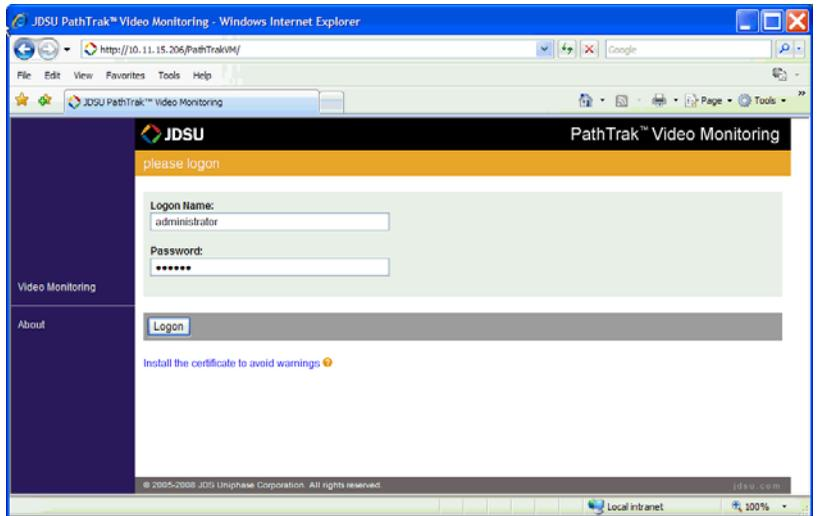

Figure 66 PathTrak™ Video Monitoring logon page
- 4 On the PathTrak™ Video Monitoring logon web page Logon Name text box (Figure 66), type **your logon name or the default logon name**.